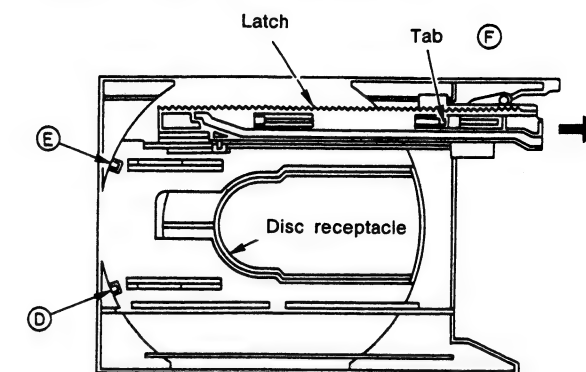

Fig. 4
## (3) Replacement of the disc holder (Fig. 4)
With the tray removed, remove tabs (D) and (E) of the disc receptacle of Fig. 4, then lift up and off.
## (4) Replacement of the latches (Fig. 4)
Set the latches into the condition of Fig. 4, lift the latch tab (F) up about 1 mm with a flat-bladed screwdriver and remove the rack in the direction of the arrow.